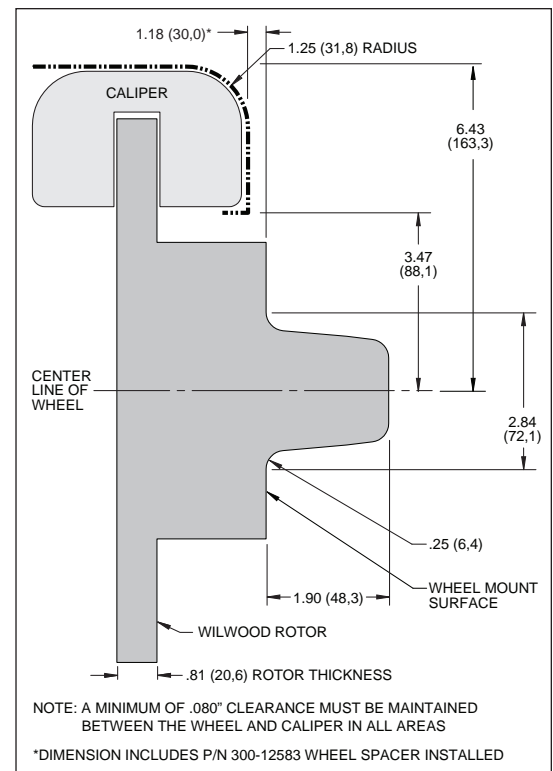

Figure 2. Wheel Clearance Diagram
- Review the Wheel Clearance Diagram (Figure 2, page 3) to verify that there is adequate clearance with the wheels you will be using with the installation.
- Verify wheel clearance utilizing Figure 2.
- WARNING:** The wheel contact surfaces must seat completely on the face of the hub. If any contact surfaces overhang the outside diameter of the hub face, a 6.60" diameter x .20" thick steel spacer (item 25, Wilwood P/N 300-12583) MUST be used between the wheel and the hub.
- NOTE:** The OEM 14" 4-lug steel wheel requires use of wheel spacer (25) for clearance.